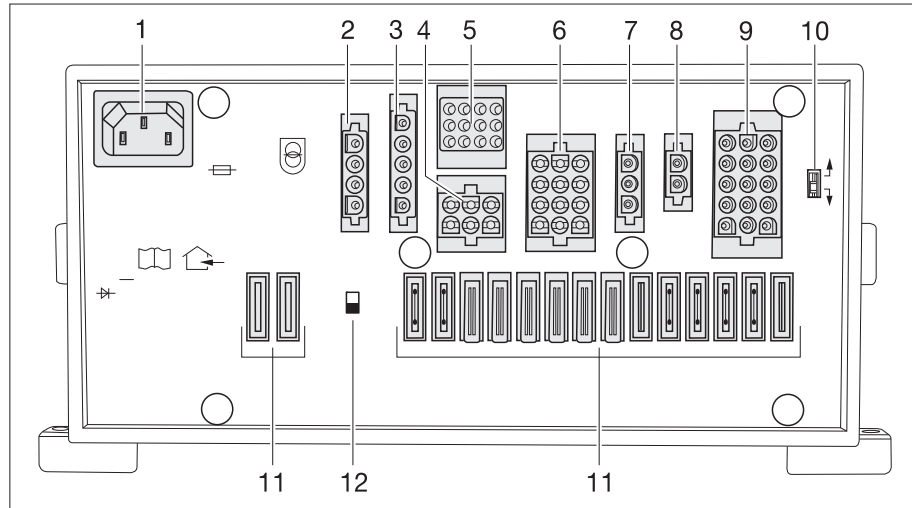

Fig. 245 Transformer/rectifier (EBL 119)
- ▷ The battery cut-off switch (Fig. 245,12) disconnects all the appliances that are connected to the transformer/rectifier from the 12 V network.
- ▶ If the battery selector switch (Fig. 245,10) is set incorrectly, oxyhydrogen gas (exploding gas) can form. Danger of explosion!
The battery selector switch (Fig. 245,10) is used to set the charger module in the transformer/rectifier to the type of living area battery installed in the vehicle ("lead acid", "dryfill" or AGM).